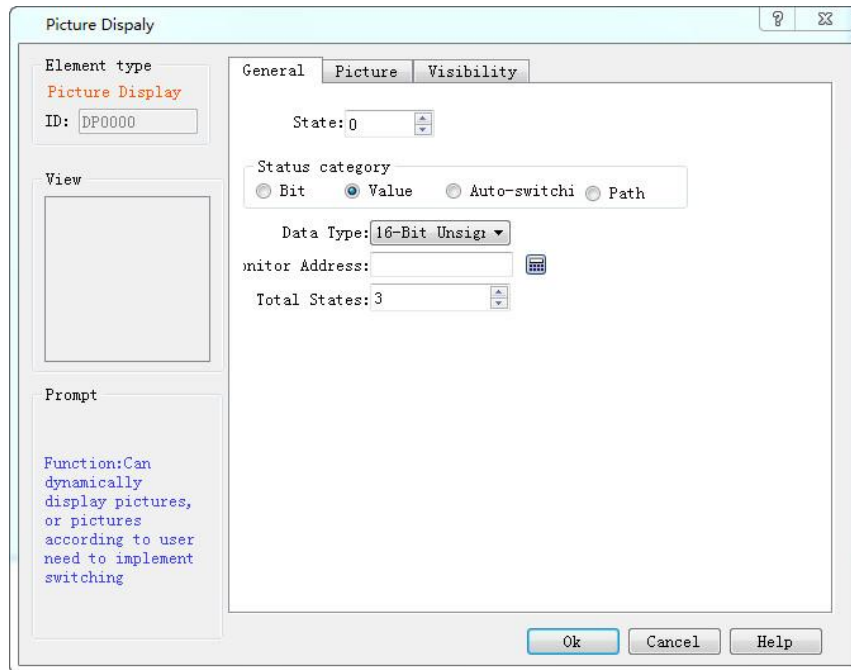

Figure 4-110 Picture Display dialog box
- Click the icon of the Picture display  on the toolbar. The dialog box shown in Figure 4-110 pops up: